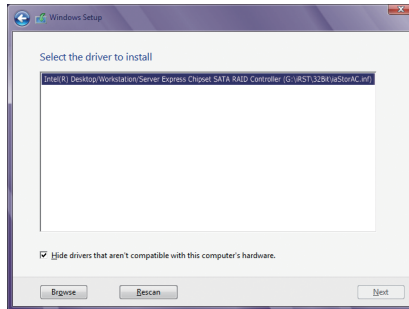

Figure 1
When a screen as shown in Figure 1 appears, select **Intel(R) Desktop/Workstation/Server Express Chipset SATA RAID Controller (G:\IRST\32Bit\us2raic.ac.inf)** and click **Next** to load the driver and continue the OS installation